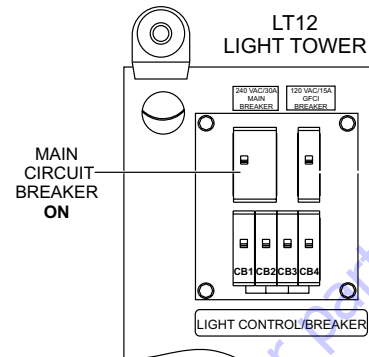

Figure 12. Main Breaker ON (LT12)
4. Once, the engine has started, place the main circuit breaker switch (Figure 12) on the LT12 control panel in the ON position.